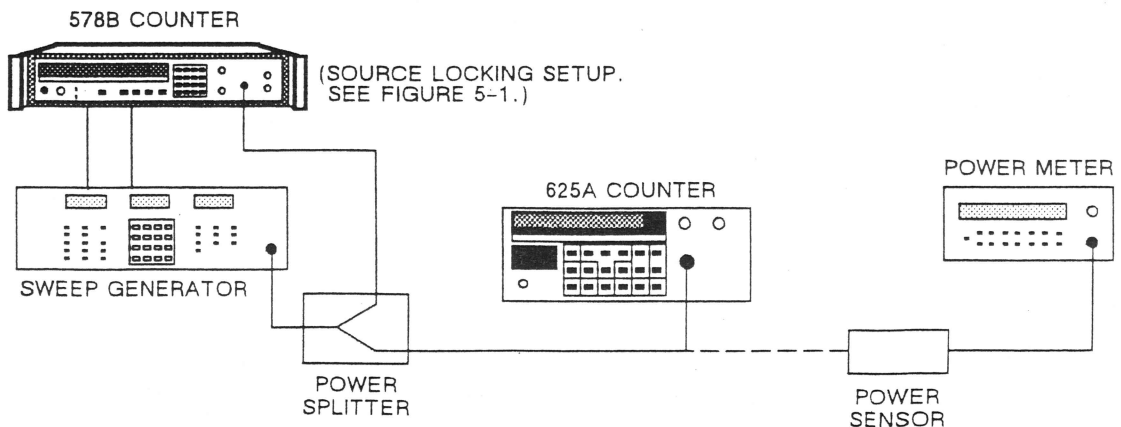

Figure 5-5. Band 3 CW Signal Range and Sensitivity Test Setup.
1. Connect equipment as shown in Figure 5-5.